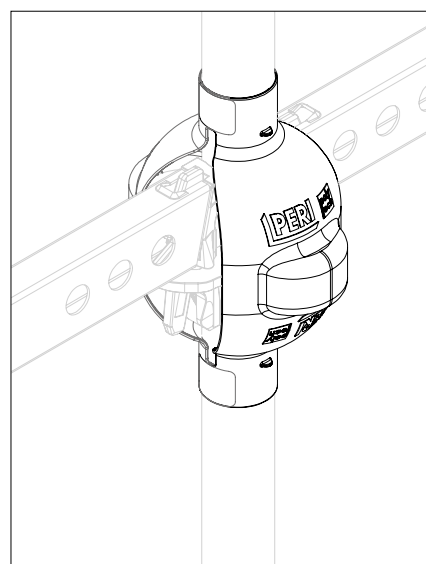

Fig. A7.06a
3. If ledgers are arranged longitudinally: fit Poly Cover UPC-C on both sides. (Fig. A7.06a)